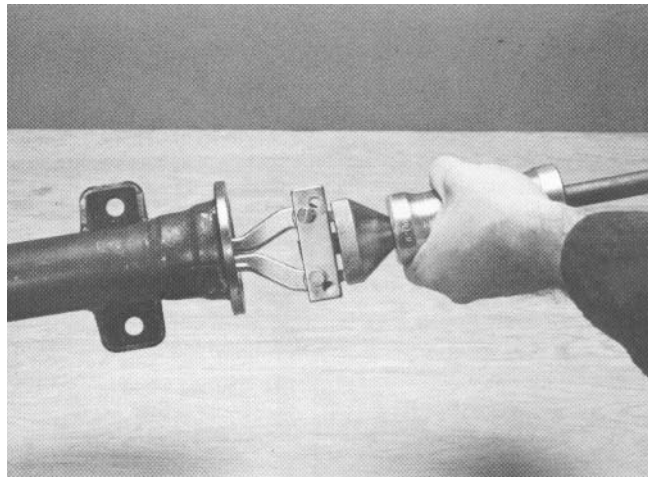

Figure 10
8. Remove and discard the inner axle shaft seal (Fig. 10).